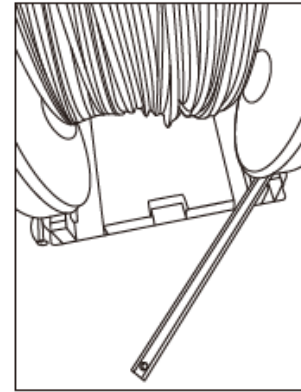
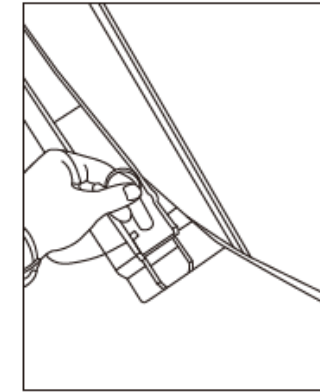

Fig 3
Fig 4
6. Roll reel onto the cradle and position to the extreme back position, swing Cross Bar Weldment (3) back to starting point (Fig 3) and insert Cross Bar Lock Pin (5) to keep reel secured in place (Fig 4).